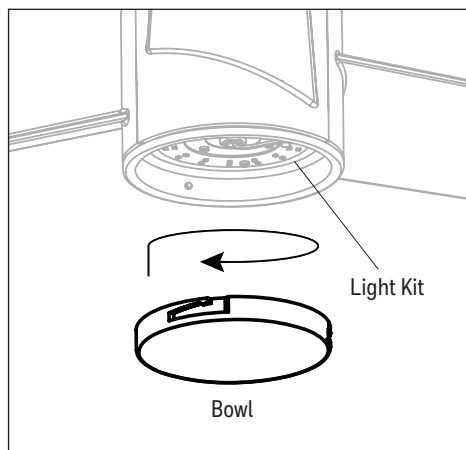

Figure 5.7
7. Attach the bowl to the light kit by twisting the bowl firmly in a clockwise direction until it is secure (Figure 5.7).